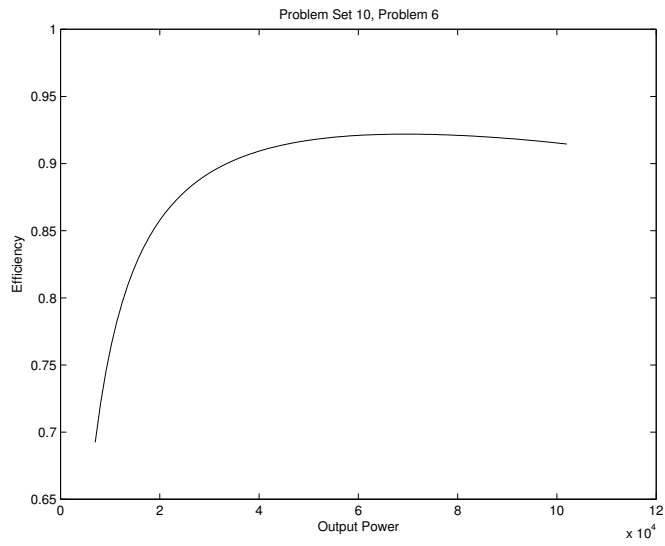

Figure 3: Rated Frequency Efficiency
**Problem 6: For 6.979** The trick here is to find the values of slip corresponding with five and one hundred percent of rated torque. This is done using a technique very similar to that in finding the 'running light' condition, but in this case we must add rated and five percent torque. Just to check, I calculated output power for the rated case. Once the two values of slip are calculated we can do a sweep between them to get efficiency and power factor, which are in Figures 3 and 4 respectively.